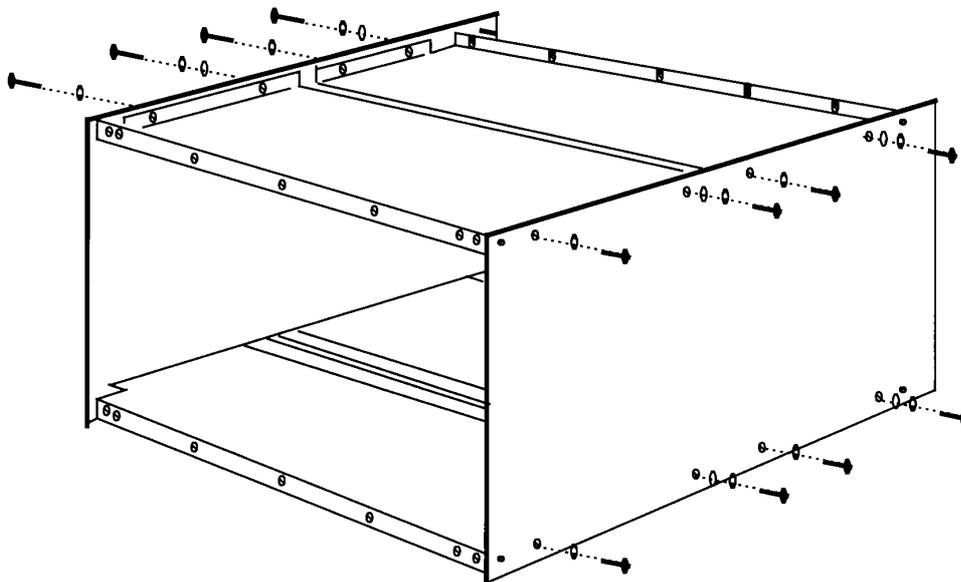

Figure 3.2 Assembly of support trays and side panels for IMP mounting frame.
Figure 3.2 Assembly of support trays and side panels for IMP mounting frame.....	3-6
- 1** Fix the support trays (four off) to the side panels (two off), using M4 pan head screws and crinkle washers. (See Figure 3.2.) Add one plain washer to fixing hole if the panel hole is a slot.
The 5000 IMP must be powered from a dc supply, in the range 12V through 24V. Power is connected to the EXT POWER terminals on the 5000 13L Connector Block. See Figure 3.2.